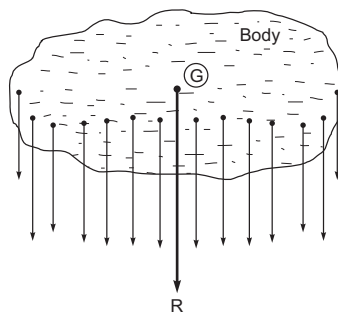

Fig. 4.1: Center of gravity (CG)
It has been established, since long, that every particle of a body is attract by the earth towards its centre. The force of attraction, which is proportional to the mass of the particles of the body, acts vertically downwards and known a weight of the body. As the distance between the different particles of a body & the centre of the earth is taken to be same (because of very small size of the body as compared to the earth), these forces may be taken to act along parallel lines as shown in fig. 4.1. The resultant  $R$  of all such parallel forces acts on one point  $G$ . This point through which the whole weight of the body acts, is known as center of gravity (CG), irrespective of the position of the body. It may be note that everybody has only one & one CG. If you balance the body on this point of CG, it will balance.